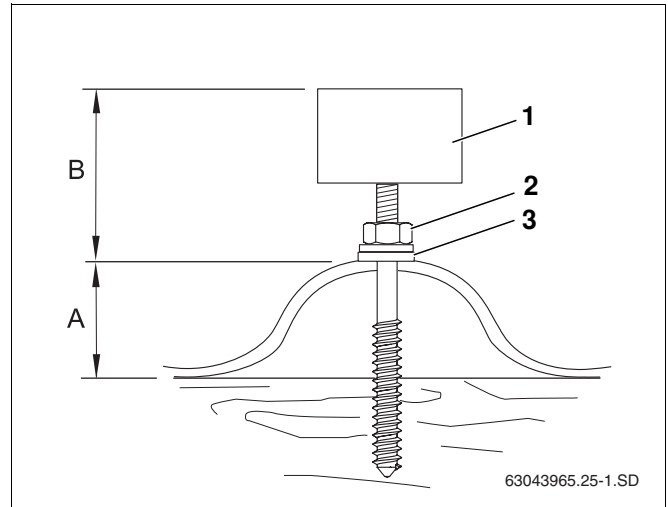

Fig. 24 Carriage bolt fitted to corrugated roof
When screwing in Carriage bolts, ensure that the distance B (Fig. 24) is the same for all carriage bolts.
- Tighten the nuts (Fig. 24, **Item 2**) until the sealing disc (Fig. 24, **Item 3**) is lying completely flush on the roof.